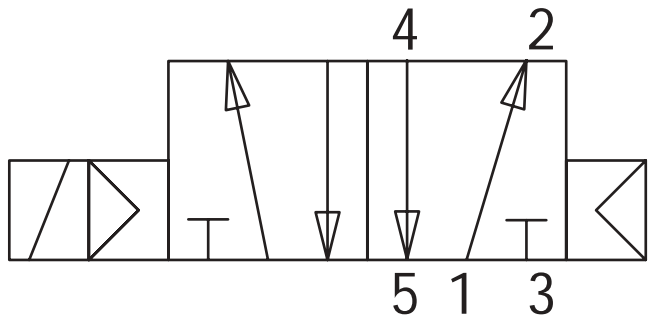
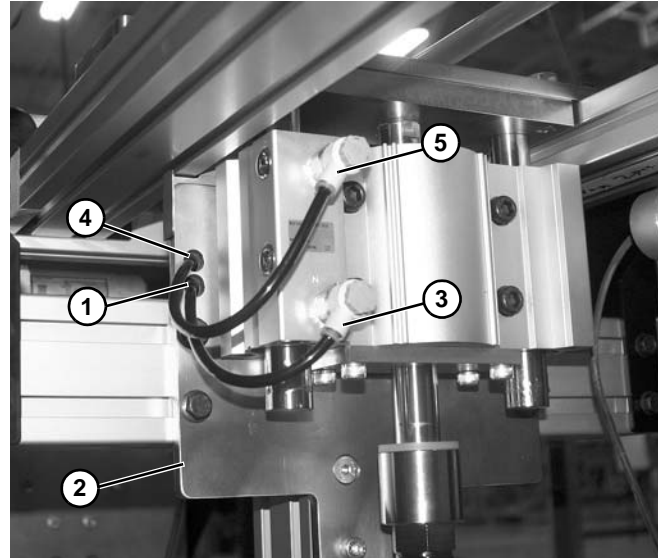

Figure 45
Figure 47
Dorner recommends using a 5-port 2-way solenoid valve (Figure 45) to operate the Lift and Transfer Pallet Unit.
4. Connect Port 4 (Figure 45) of the 5-port 2-way solenoid through the lower opening (Figure 47, item 1) in plate (Figure 47, item 2) and to the lowest port (Figure 47, item 3) on the lift. Dorner fittings accept 1/4" outside diameter tubing standard.
5. Connect Port 2 (Figure 45) of the 5 port, 2 way solenoid through the upper opening (Figure 47, item 4) in plate (Figure 47, item 2) to the upper port (Figure 47, item 5) on the lift. Dorner fittings accept 1/4" outside diameter tubing standard.